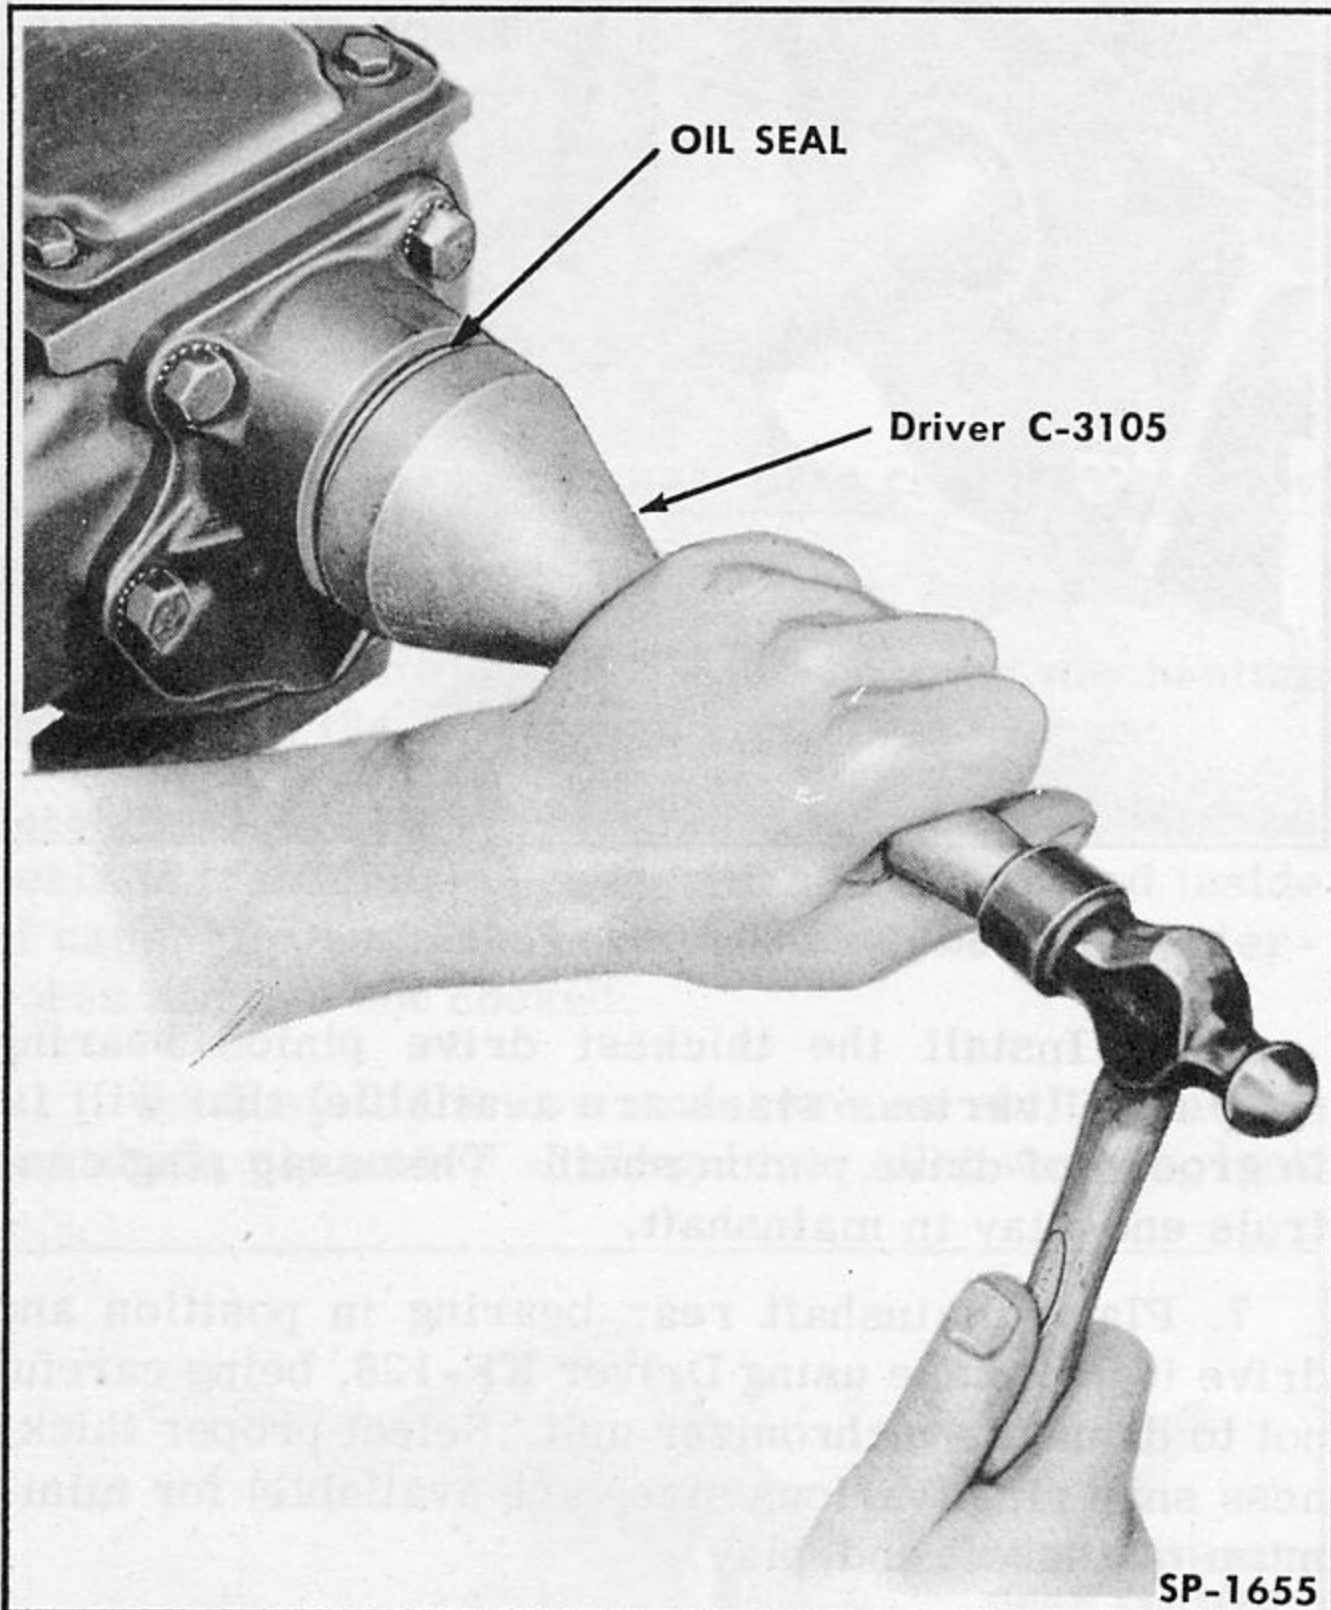

Fig. 137—Installing Mainshaft Oil Seal
10. Install new mainshaft oil seal in mainshaft bearing retainer using Transmission Rear Oil Seal Installing Driver C-3105 as shown in Fig. 137.